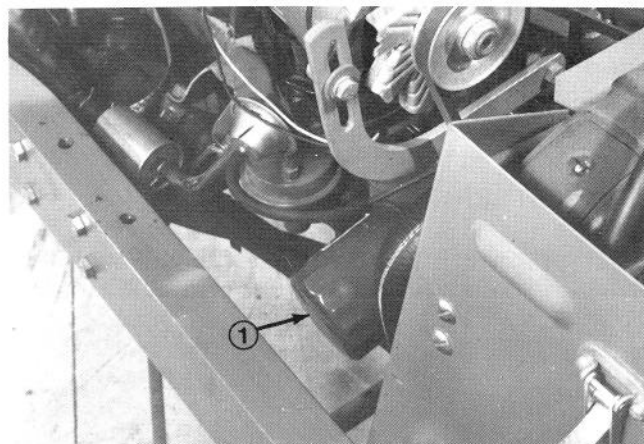

Figure 30
3. Add oil to the engine. Five quarts (4.73 L) with filter (Fig. 30).